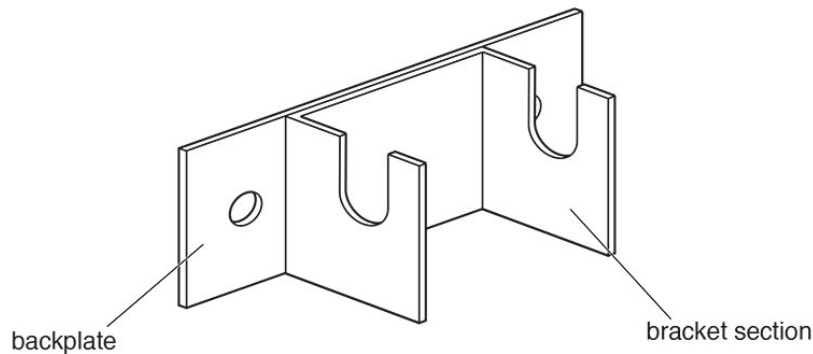

Fig. 1
- 3 Fig. 1 shows a support bracket made in two parts. Both parts are made from 3 mm thick mild steel.